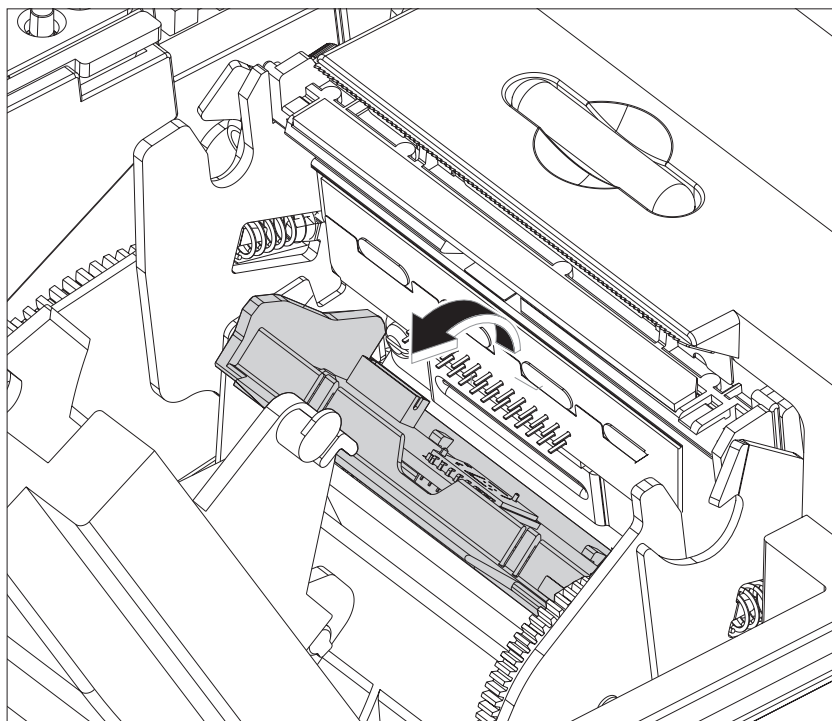

Figure 34. View with paper-out sensor assembly open
2. Flip down the paper out sensor assembly cover. See Figure 34.
3. Once the paper-out sensor clicks into place, close the sensor assembly cover. See Figure 34 on page 51.